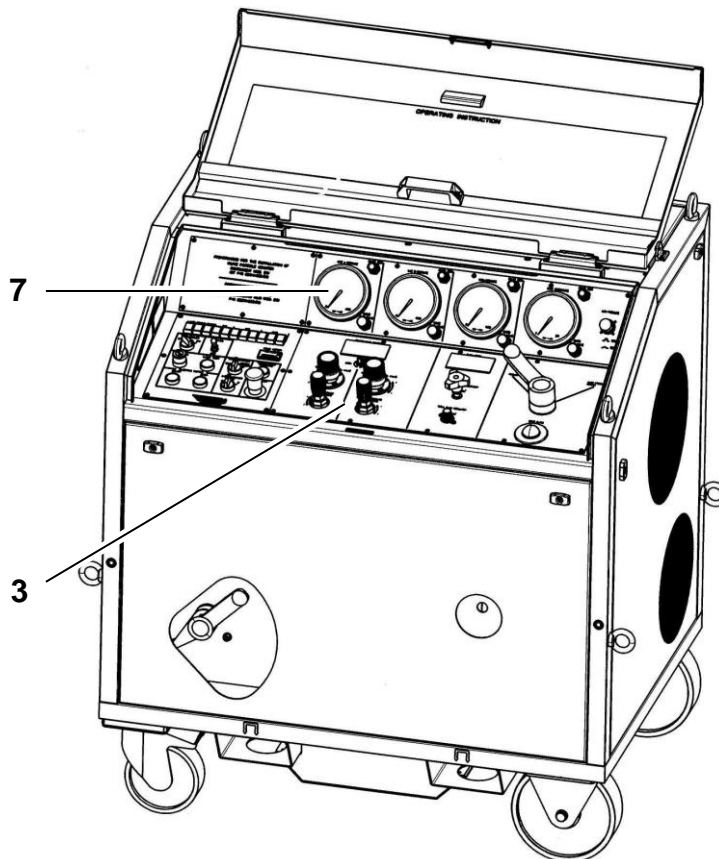

Fig. 1.2 Hydraulic system components
1.4.2.1 Hydraulic system (Ref. Fig. 1.2 – 1.3)